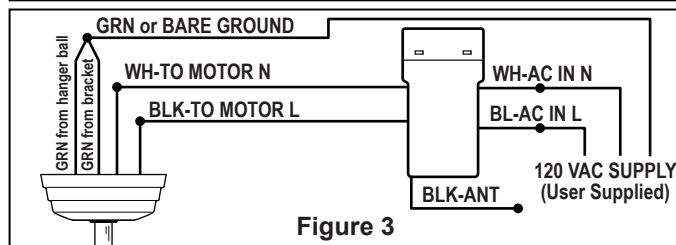

Figure 3
- Connect wires as indicated: (Figure 3)